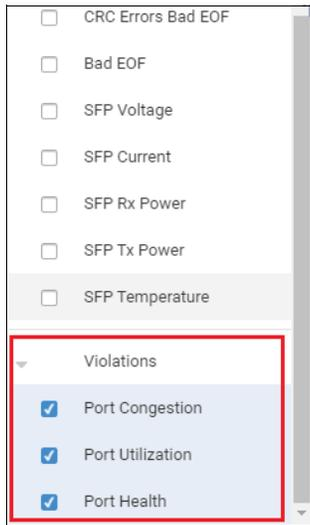

Figure 5-127 Investigating switch port violations
1. Scroll to the bottom of the Measures pane and select the violations that you want to see, as shown in Figure 5-127.